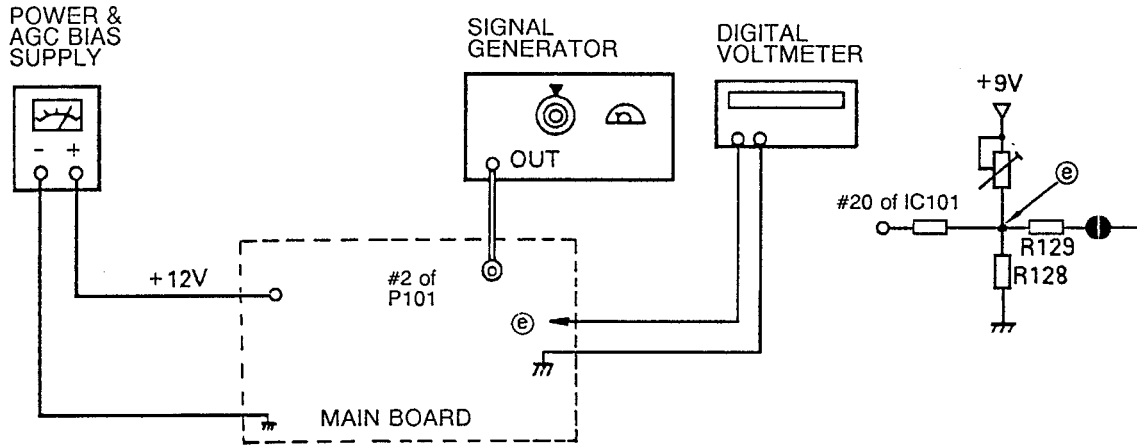

Figure 6. AFC Alignment
- GENERAL Refer to figure 6 for test equipment connection.
2. Supply +12 volts to the Main Board. (See figure 6.)
- DVM..... Connect to the resistor R125 (© in figure 6) and ground.
| 1. AFC Balance (R153) | NO SIGNAL | R153 | <ul style="list-style-type: none"> Short the pin 3 of IC101 to ground. Adjust R153 for 4.5 volts at the point © in figure 6. |
| 2. AFC Coil (L152) | 37.4 MHz CARRIER WAVE (Level : 75 to 85 dBμ) | L152 | <ul style="list-style-type: none"> Remove the short of pin 3 of IC101. Short the collector of QN08 to ground. Connect IF carrier wave to the pin 2 of P101 in figure 6. Adjust L152 for 5.4 volts on the meter at the point ©. After completing L153 adjustment, repeat this step again. |
| 3. AFC Capacitor (L153) | 32.7 MHz CARRIER WAVE (Level : 75 to 85 dBμ) | L153 | <ul style="list-style-type: none"> Remove the short of collector of QN08. Connect IF carrier wave to the pin 2 of P101 in figure 6. Adjust L153 for 5.4 volts on the meter at the point ©. After completing L152 adjustment repeat this step again. |